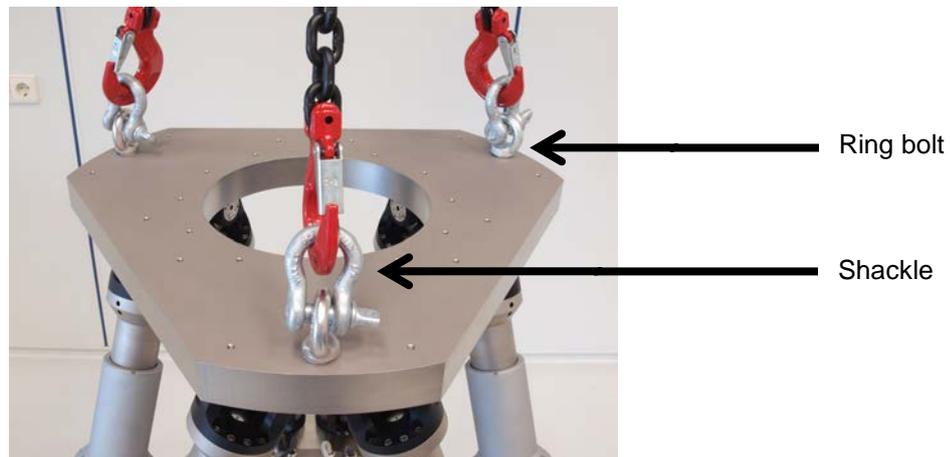

Figure 15: Lifting the hexapod at its motion platform using three ring bolts and three shackles
- To fix the ring bolts and shackles use the three M12 mounting holes in the motion platform of the hexapod, see Figure 15 on p. 30.
5. Fix three ring bolts to three M12 mounting holes with 24 mm depth in the rounded edges of the motion platform, see Figure 15 below.
- To fix the ring bolts and shackles use the three M12 holes in the motion platform of the hexapod, see Figure 15 on p. 30.